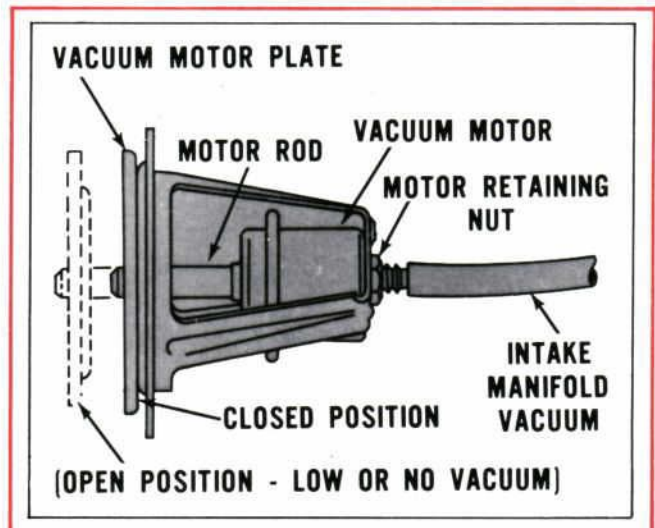

Figure 10—Air Valve and Vacuum Motor Assembly
8. If the motor rod moves a minimum of one-half inch, the motor is functional and should be reassembled into the duct assembly. Checks for interference and misalignment and action of the thermostat bulb should be made. If the motor rod does not move a minimum of one-half inch, the vacuum motor is not functional and should be replaced. See Figure 10.